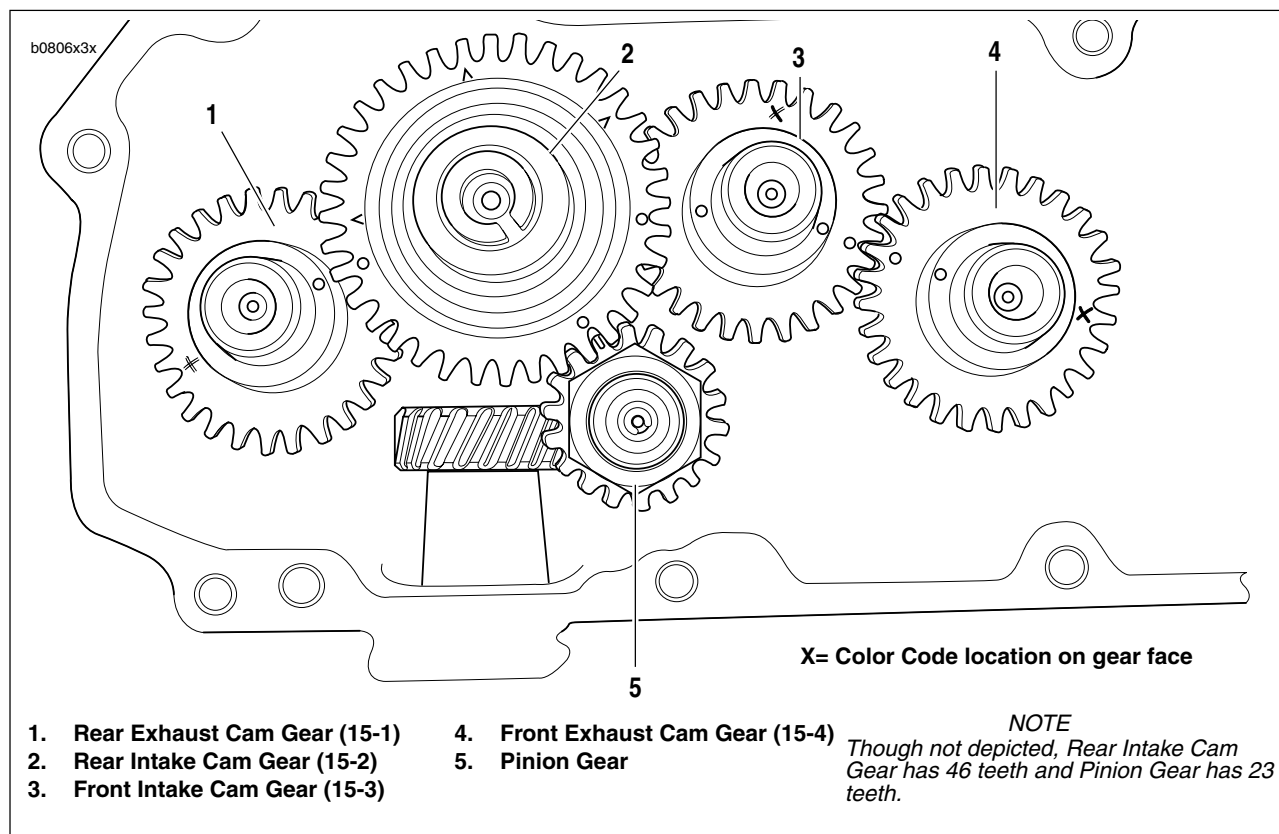

Figure 3-64. Cam and Pinion Gear Timing Mark Indexing
3. Liberally apply engine oil to bushings, shafts, and gears. Install all cam gears into bushings of right crankcase half, properly aligning timing marks of cam gears and pinion gear. See Figure 3-64.